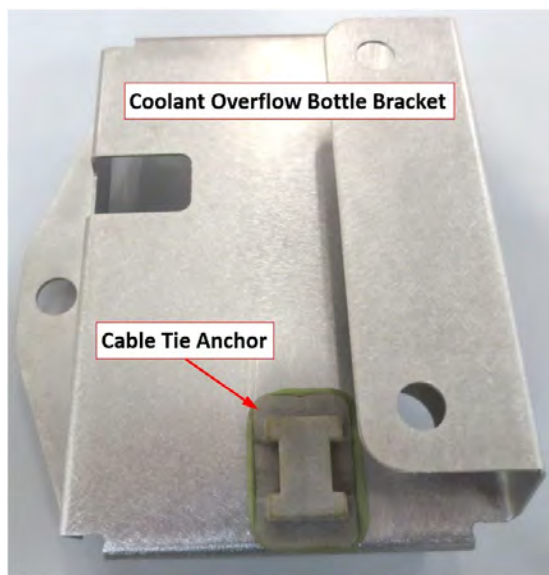

FIGURE 16-38
- a. A CB9120V5 cable tie anchor will be bonded to the bracket in the location shown in Figure 16-38.